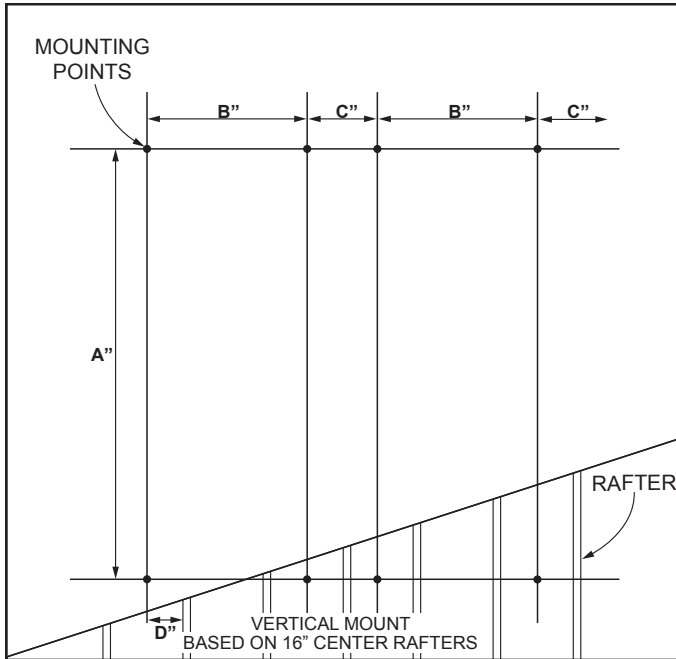
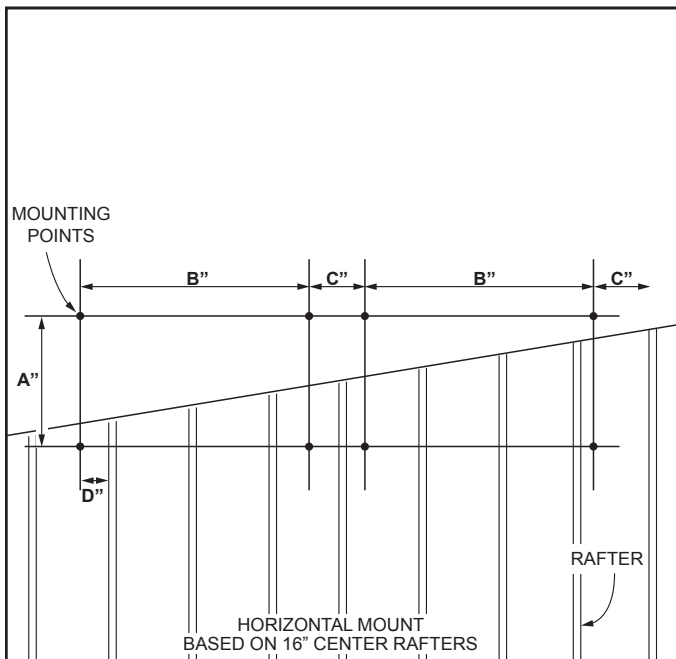

Figure 1.
Figure 3.
- Locate the mounting points from Figures 1 & 2 and Table 1 for vertical mount. Figures 3 & 4 and Table 2 for horizontal mount. Layout the roof as specified.